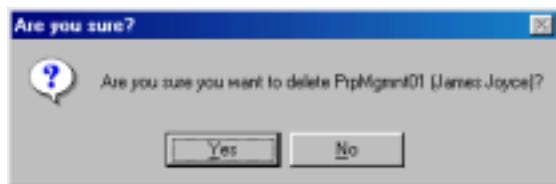

Figure 4.14 Deletion Confirmation
4. A confirmation to delete a user will appear. If you wish to proceed, click the Yes button. Click the No button to cancel the operation (Figure 4.14).